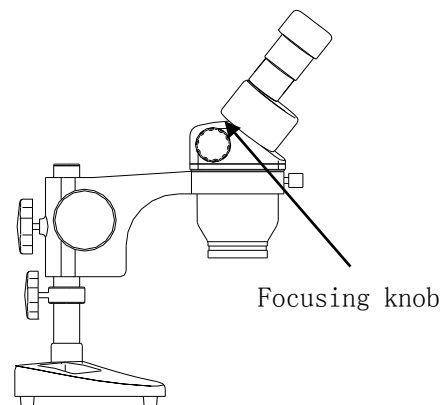

Fig. 3
3.4.1 Look through the eyepieces, focus the image by turning the focusing knobs(fig. 3).